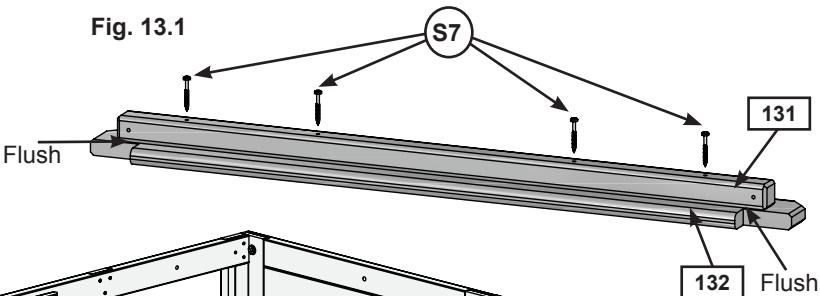

Fig. 13.2
- B:** Place Table Top Assembly in the center of opening and tight to (072) Front Wall Panel and attach (131) Table Support to (072) Front Wall Panel with 2 (S3) #8 x 2-1/2" Wood Screws. (fig. 13.2 and 13.3)